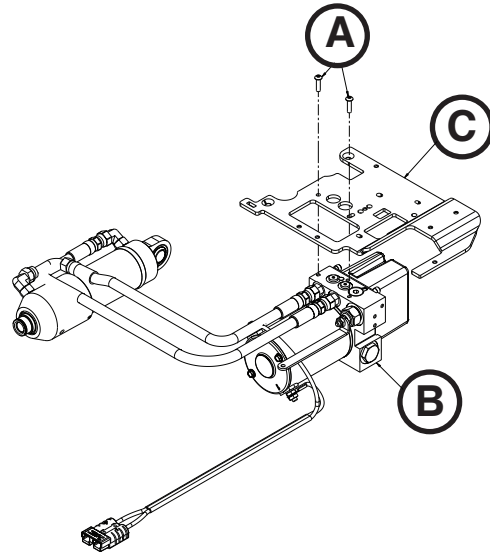

Figure 70
6. Using a T25 Torx driver, remove the two screws (A) that secure the hydraulics assembly (B) to the wing plate, left (C) (Figure 70).